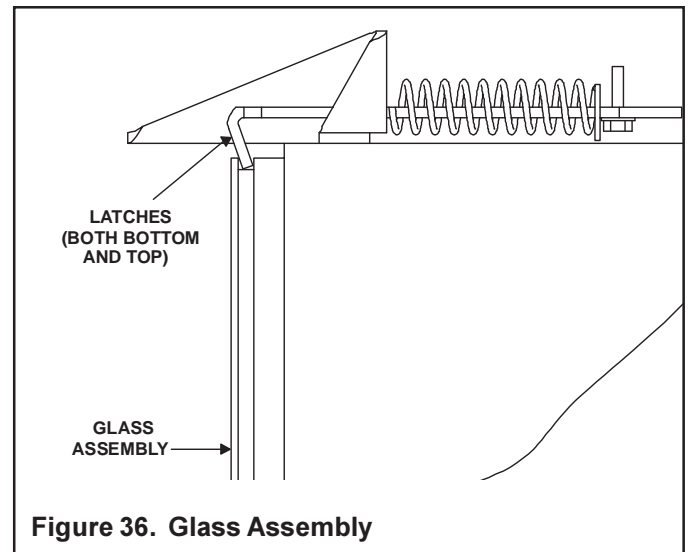

Figure 36. Glass Assembly
- Pull the four glass latches out of the groove on the glass frame. Remove glass door from the unit (see Figure 36).